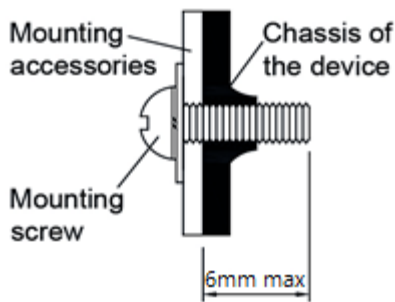

Fig. 4 Mounting Screw
- **For PMT and PML Series (Refer to Fig. 4):** Only use M3 screw $\leq 6\text{mm}$ (0.23 inch) through the base mounting holes. This is to keep a safe distance between the screw and internal components. Recommended mounting tightening torque: 4~7Kgf.cm (3.47~6.08 lbf.in).